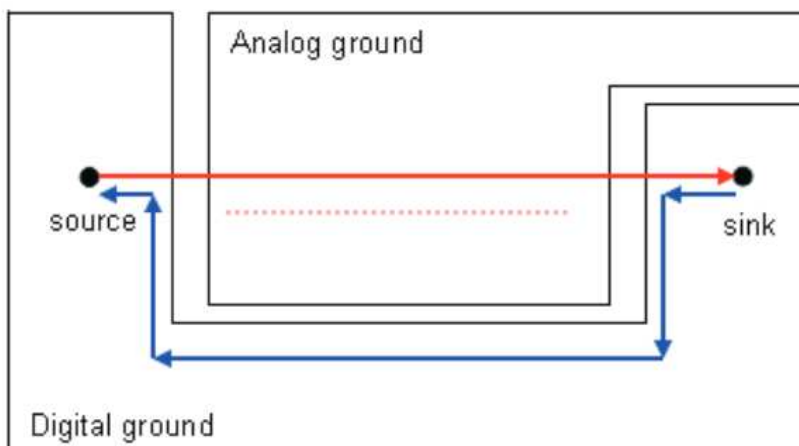

Figure 22. Loop Area and Crosstalk Due to Poor Signal Routing and Ground Splitting
- A routed trace over a gap creates large loop areas, because the return current cannot flow beside the signal, and the signal can induce noise into the nonrelated reference plane (Figure 22).